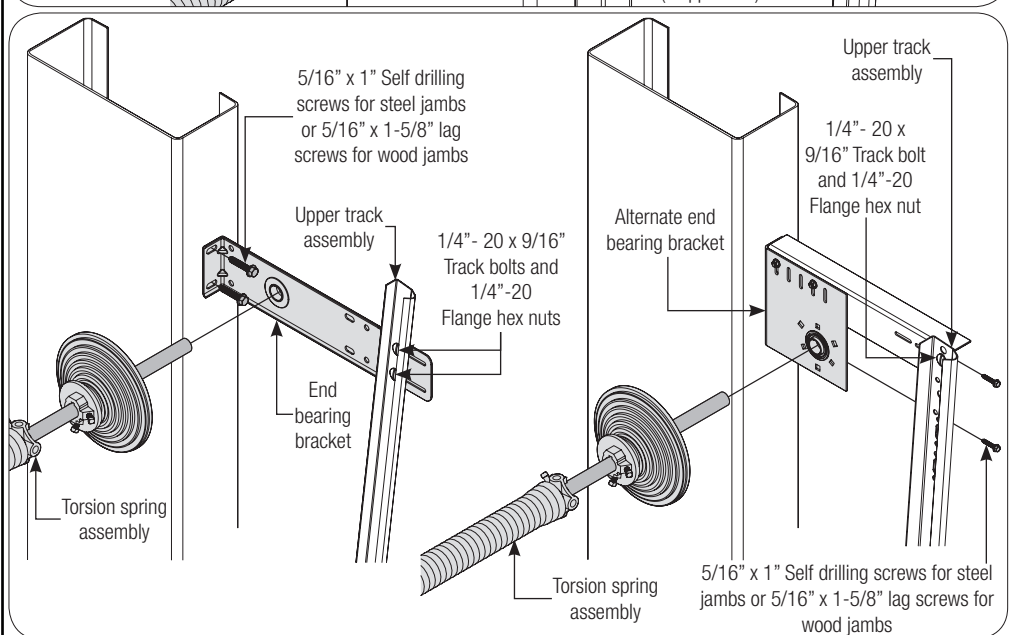

FIG. 5.1
Lift torsion spring assembly into place and bolt bearing plates to upper track assembly using (2) 3/8" truss head bolts and nuts (See Figure 5.1).